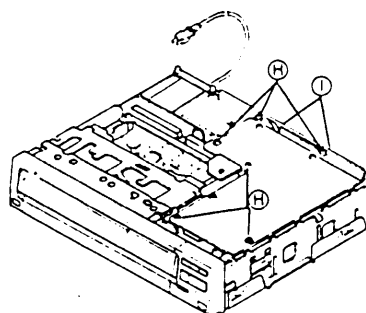

Fig. 1-1-4 Main board assembly
2. Refer to Fig. 1-1-4. Take out 6 screws (H) and (from the rear) 2 screws (I).